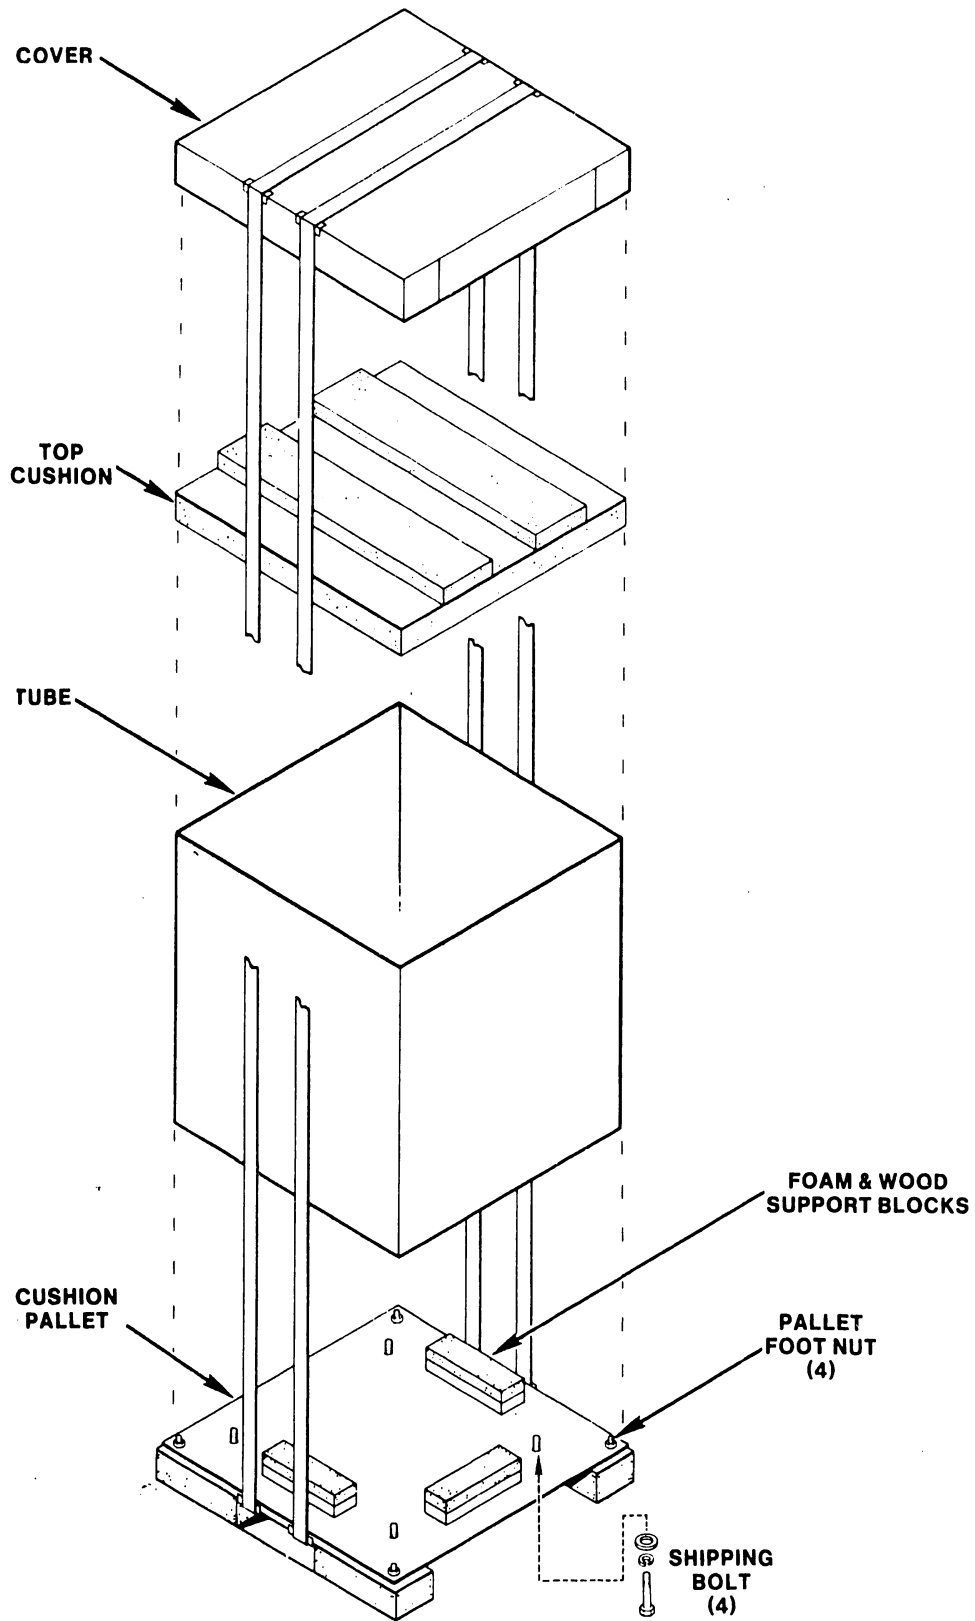

Figure 4-1. VS-25/45 Shipping Carton
3. Remove the top cover, corrugated/foam top cushion, and outside tube. (See figure 4-1.)